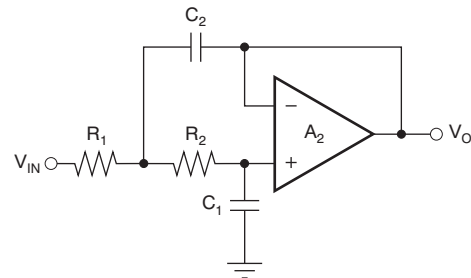
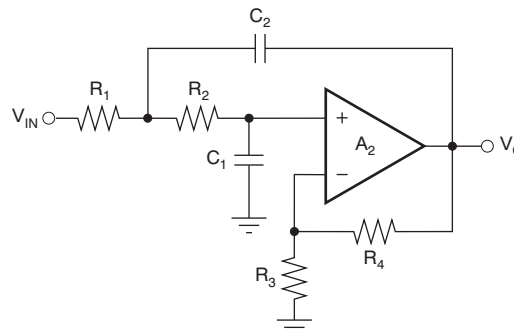

Figure 13. Sallen-Key Complex Pole-Pair Section, Unity-Gain (Gain = 1)
Figure 14. Sallen-Key Complex Pole-Pair Section (Gain = $1 + R_4/R_3$)
- Sallen-Key, shown in Figure 13 and Figure 14